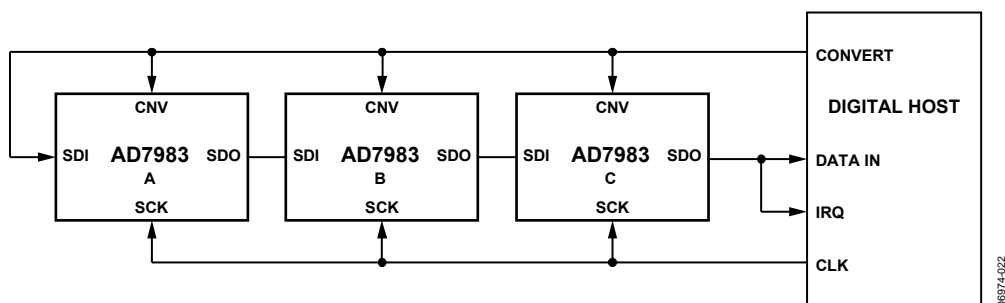
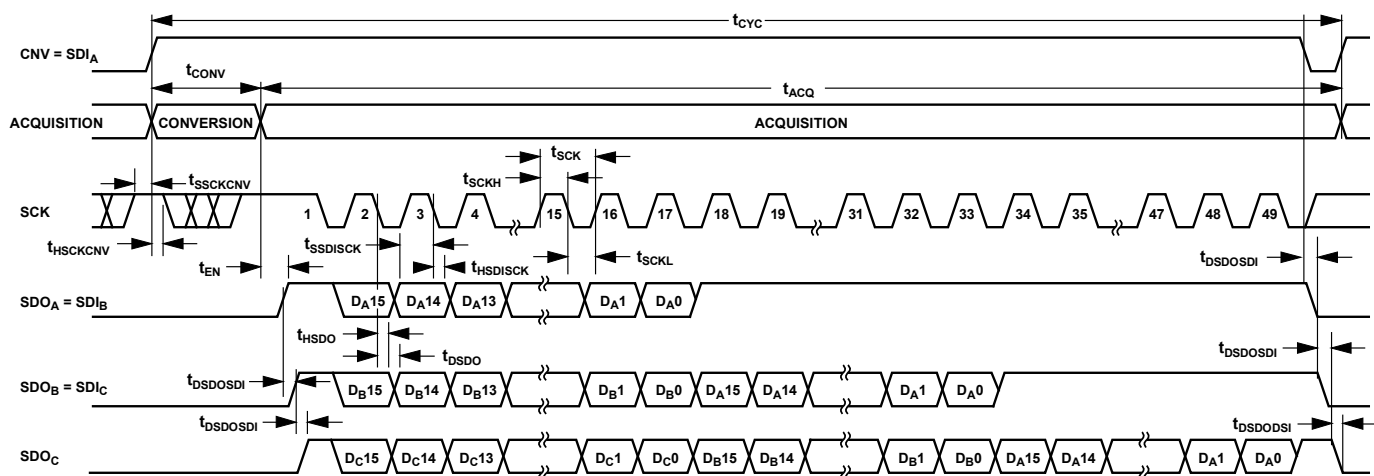

Figure 36. Chain Mode with Busy Indicator Connection Diagram
Figure 37. Chain Mode with Busy Indicator Serial Interface Timing
- In chain mode if SCK is high during the CNV rising edge (see Figure 37).
A connection diagram example using three AD7983s is shown in Figure 36, and the corresponding timing is given in Figure 37.
When SDI and CNV are low, SDO is driven low. With SCK high, a rising edge on CNV initiates a conversion, selects the chain mode, and enables the busy indicator feature. In this mode, CNV is held high during the conversion phase and the subsequent data readback. When all ADCs in the chain have completed their conversions, the SDO pin of the ADC closest to the digital host (see the AD7983 ADC labeled C in Figure 36) is driven high. This transition on SDO can be used as a busy indicator to trigger the data readback controlled by the digital host. The AD7983 then enters the acquisition phase and goes into standby mode. The data bits stored in the internal shift register are clocked out, MSB first, by subsequent SCK falling edges. For each ADC, SDI feeds the input of the internal shift register and is clocked by the SCK falling edge. Each ADC in the chain outputs its data MSB first, and  $16 \times N + 1$  clocks are required to readback the N ADCs. Although the rising edge can be used to capture the data, a digital host using the SCK falling edge allows a faster reading rate and, consequently, more AD7983s in the chain, provided the digital host has an acceptable hold time.